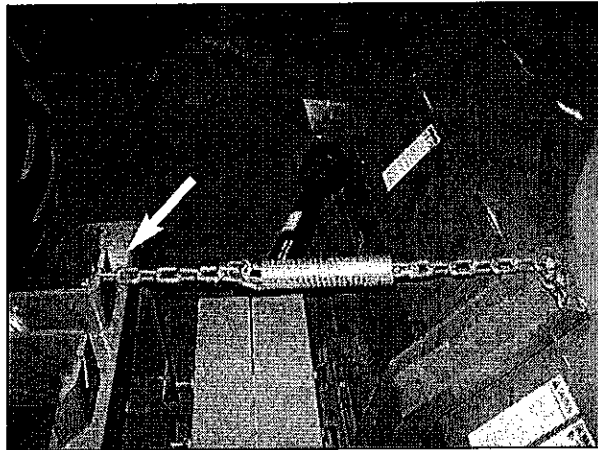

Figure 7
11. Install the spring-chain assembly (figure 7 shows spring-chain installed).